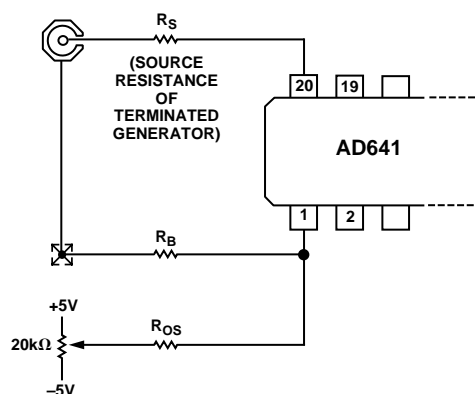

Figure 25. Optional Input Offset Voltage Nulling Circuit; See Text for Component Values
In most applications there will be no need to use any offset adjustment. However, a general offset trimming circuit is shown in Figure 25.  $R_S$  is the source resistance of the signal. *Note: 50  $\Omega$  rf sources may include a blocking capacitor and have no dc path to ground, or may be transformer coupled and have a near zero resistance to ground.* Determine whether the source resistance is zero, 25  $\Omega$  or 50  $\Omega$  (with the generator terminated in 50  $\Omega$ ) to find the correct value of bias compensating resistor,  $R_B$ , which should optimally be equal to  $R_S$ , unless  $R_S = 0$ , in which case use  $R_B = 5$   $\Omega$ . The value of  $R_{OS}$  should be set to 20,000  $R_B$  to provide a  $\pm 250$   $\mu\text{V}$  trim range. To null the offset, set the source voltage to zero and use a DVM to observe the logarithmic output voltage. Recall that the LOG OUT current of the AD641 exhibits an *absolute value response* to the input voltage, so the offset potentiometer is adjusted to the point where the logarithmic output "turns around" (reaches a local maximum or minimum).
R4 is identical to R2, and in shunt with R3 (270  $\Omega$  thin film) forms a 27  $\Omega$  resistor with the same TC as the output resistance of the attenuator. By connecting Pin 1 to ATN LOW (Pin 2) this resistance minimizes the offset caused by bias currents. The offset nulling scheme shown in Figure 25 may still be used, with the external resistor  $R_B$  omitted and  $R_{OS} = 500\text{ k}\Omega$ . Offset stability is improved because the compensating voltage introduced at Pin 20 is now PTAT. Drifts of under  $1\text{ }\mu\text{V}/^\circ\text{C}$  (referred to Pins 1 and 20) can be maintained using the attenuator.
Cascaded AD641s can be used in dc applications, but input offset voltage will limit the dynamic range. The dc intercept is 6  $\mu$ V. *The offset should not be confused with the intercept*, which is found by *extrapolating* the transfer function from its central "log linear" region. This can be understood by referring to Equation (1) and noting that an input offset is simply additive to the value of  $V_{IN}$  in the numerator of the logarithmic argument; it does not affect the denominator (or intercept)  $V_X$ . In dc coupled applications of wide dynamic range, special precautions must be taken to null the input offset and minimize drift due to input bias offset. It is recommended that the input attenuator be used, providing a practical input range of  $-74$  dBV ( $\pm 200$   $\mu$ V dc) to  $+6$  dBV ( $\pm 2$  V dc) when nulled using the adjustment circuit shown in Figure 25.